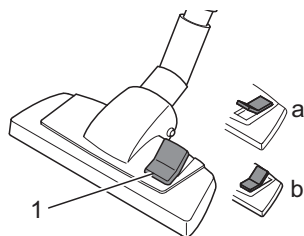

Fig. 12
- Set the nozzle switch to "carpet" or "hard floor" according to the floor (Fig. 12) to be cleaned:
- **Hard floor (Fig. 12/A)**
- **Carpet (Fig. 12/B)**